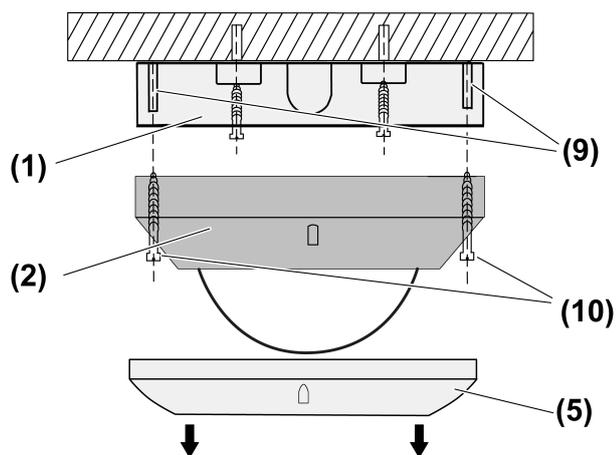
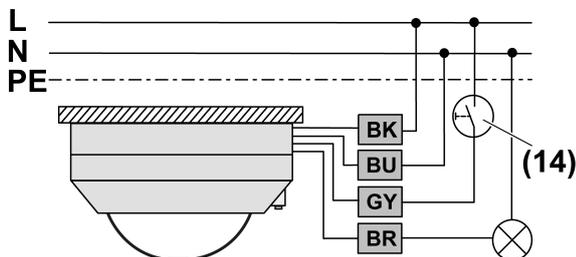
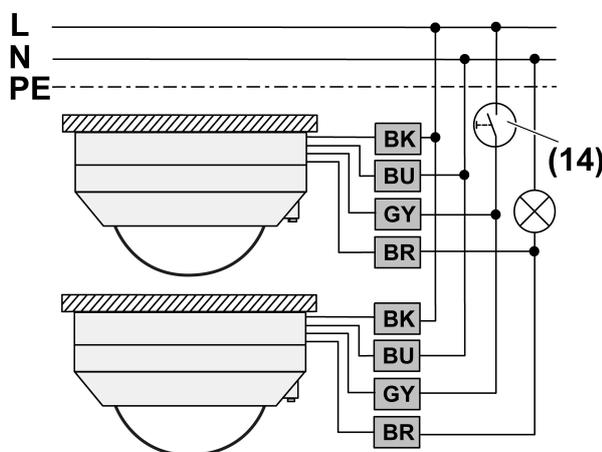

Figure 7: Mounting
Figure 9: Connection diagram, single device
Figure 10: Connection diagram, parallel circuit for expanding the detection field
- (1) Connection box
- (2) Sensor top
- (5) Decor ring
- (9) Fastening pins
- (10) Screws
- Pull off decor ring (5) (Figure 7).
- Loosen screws (10) (Figure 7).
- Connect the sensor top according to the connection diagram (Figure 9) or switch the sensor tops according to the circuit diagram (Figure 10).
- Optionally, connect the installation button (14) (Figure 9) or (Figure 10). This is only necessary if manual operation is also desired.
- i** In the case of single devices, a 2-wire extension can be used as an alternative to the installation button (14).
- Screw the sensor top (2) to connection box (1) with screws (10) and mounting pins (9) (Figure 7).